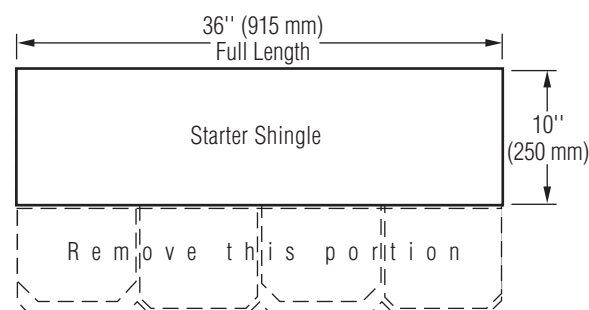

Figure 17-7: Make starter shingles by removing the 8" lower portion.
- When installing Carriage House, the starter course will consist of Carriage House shingles from which the 8" lower portion has been removed. The easiest way to do this is by cutting straight across the length of the shingle just above the top of the cutouts (Figure 17-7).